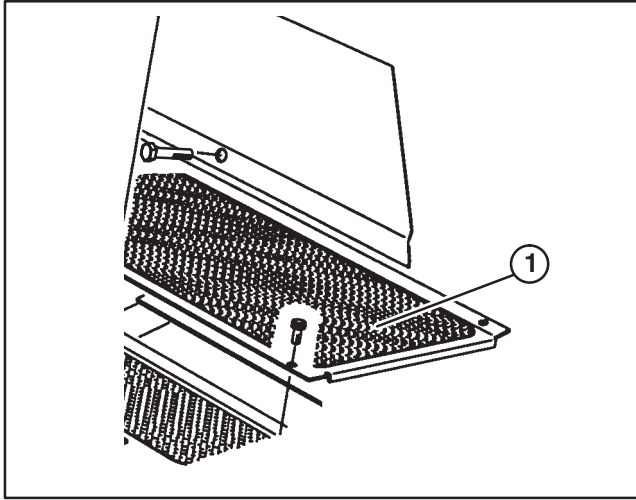

Figure 3
REPLACE FLOOR PANEL FASTENER (Required for CE) (Fig. 3)
1. Remove fastener securing left front corner of floor panel to frame (Fig. 3).
2. Replace with 5/16-18 x 5/8" lg. flange head capscrew supplied in loose parts (Fig. 3)